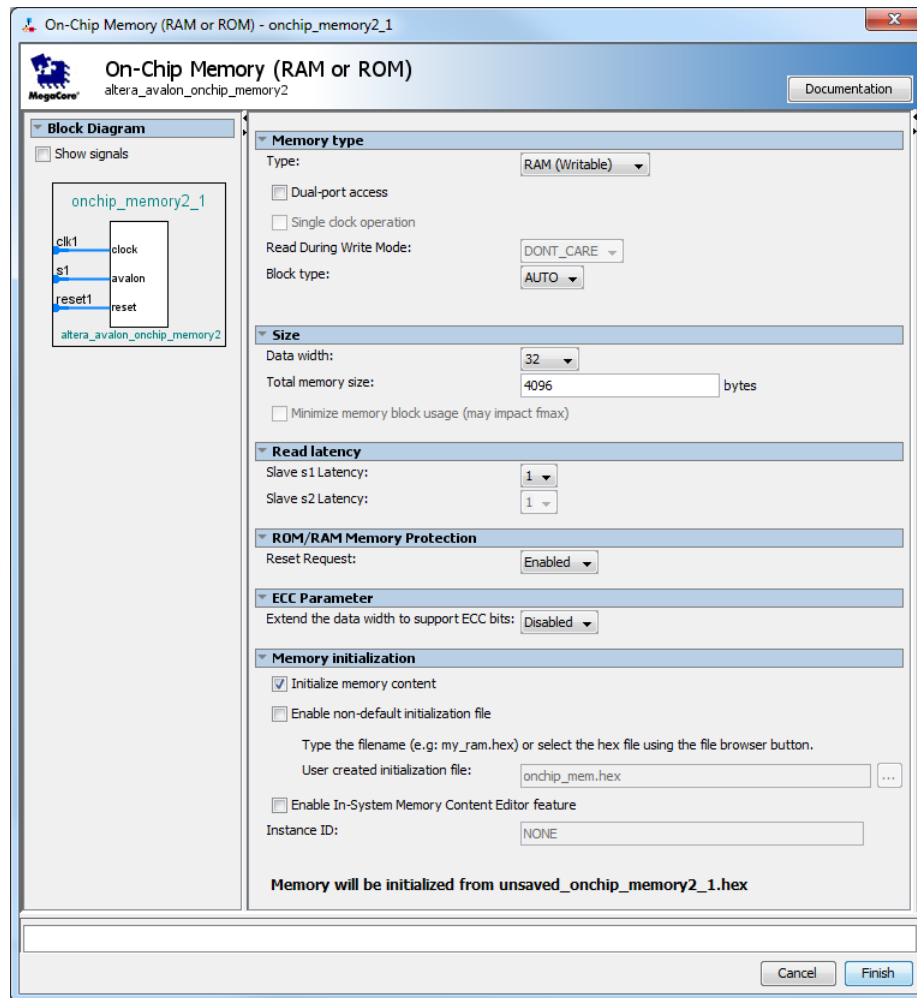

Figure 8. Define the on-chip memory.
- In the **On-Chip Memory Configuration Wizard** window, shown in Figure 8, ensure that the **Data width** is set to 32 bits and the **Total memory size** to 4K bytes (4096 bytes)